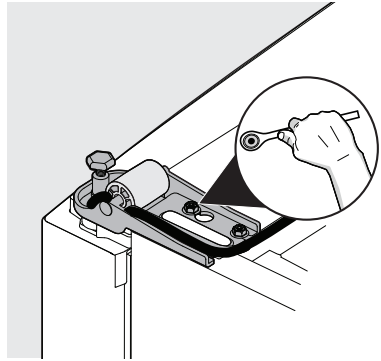

Figure 4
8. Remove the bottom hinge using 5/16" (8mm) wrench (see Figure 4).